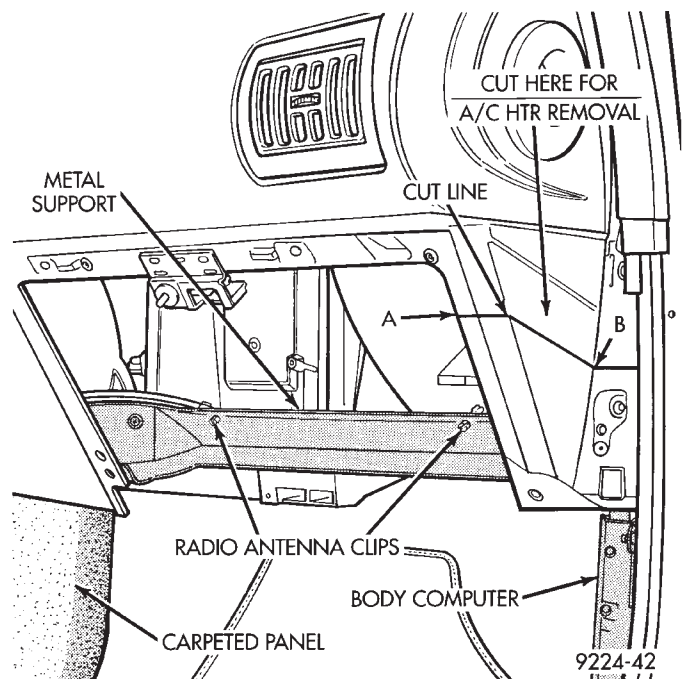

Fig. 6 Cut Line For A/C-heater Removal—AG/AJ Body
- (1) Disconnect the battery negative cable.
- (2) Drain the coolant from cooling system. Refer to Group 7, Cooling System.
- (3) Remove the air-conditioner expansion valve (if equipped).
- (4) Disconnect the heater hoses from heater core. Then plug or cap the tubes on heater core. This will prevent spilling coolant into the interior of vehicle during unit removal.
- (5) Remove the condensate drain tube.
- (6) Disconnect the A/C-heater vacuum supply line from vacuum supply nipple (in the engine compartment).
- (7) Remove the four A/C-heater assembly-to-dash panel attaching nuts.
- (8) Remove the passenger side front seat. Refer to Group 23, Body.
- (9) Remove the kick panel/sill cover at right door opening.
- (10) Remove the body computer (Fig. 6) located at the lower right section of the right front door pillar.
- (11) Remove the glove box assembly. Refer to Group 8E, Instrument Panel.
- (12) Remove the carpeted panels from both sides of the console.
(13) Un-clip the radio antenna cable from the metal support (Fig. 6) located behind and below the glove box opening.
(14) Instrument panel removal is not necessary to remove the A/C-heater assembly from the vehicle. Although, part of the lower instrument panel must be cut. The cut line is marked: **CUT HERE FOR A/C HTR REMOVAL**.
This cut line is stamped (indented) into the right-outer side of the instrument panel padding (outboard of the glove box opening). Using a hacksaw blade, cut the instrument panel padding along the indented line from point A to point B (Fig. 6). **CUT THE PLASTIC ONLY.** Do not cut the metal support behind the instrument panel padding.